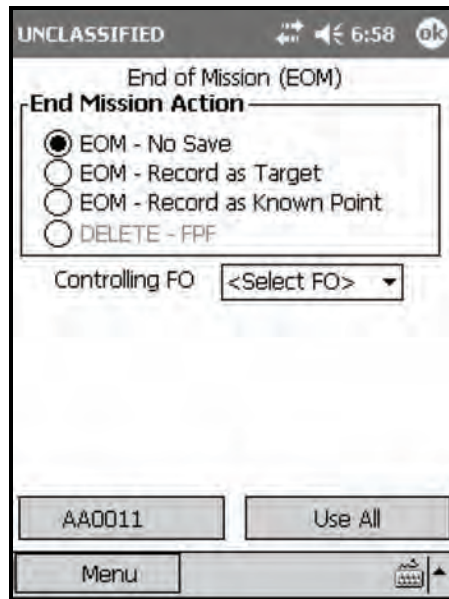

Figure 18-80. Quick Smoke: End of Mission screen.
- (17) After the section announces, “All rounds complete,” the FDC sends an MTO of “All rounds complete.”
- (18) Navigate to the EOM screen (Figure 18-80).